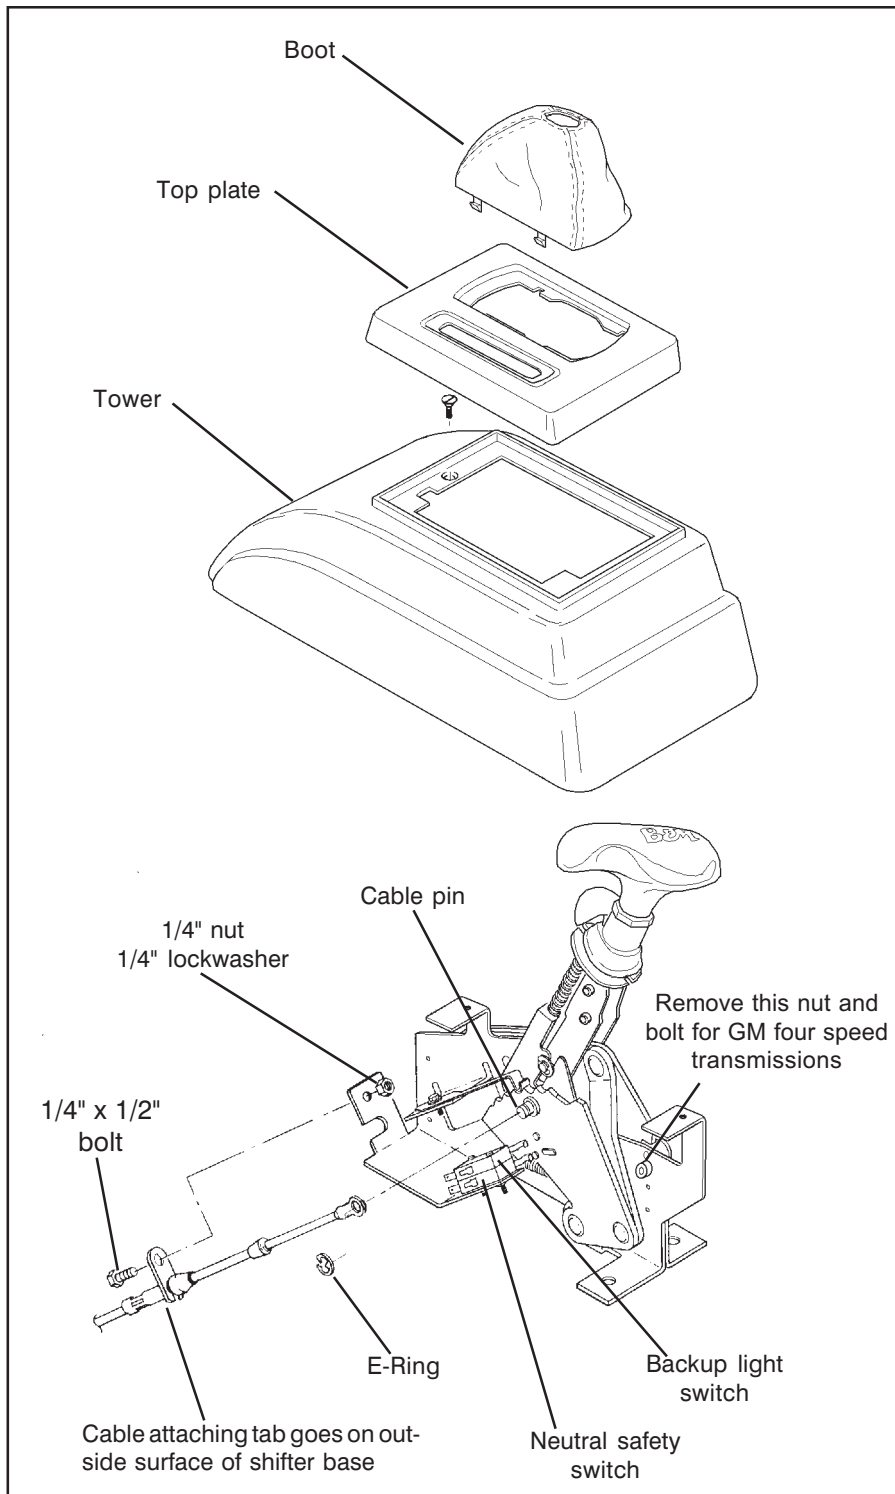

Figure 1
To use this shifter with a GM four speed automatic transmission (TH-700R4 or TH-200 4R) you will need to remove the three speed blocker bolt and nut. (See **figures 1 and 3**.) For the Ford AOD four speed transmission do **not** remove this bolt.
NOTE: If you are installing this shifter with a GM TH-700R4 or TH-200 4R four speed automatic transmission you must remove the bolt and nut indicated in **figures 1 and 3**. Removing this bolt gives the shifter four forward positions rather than three. For Ford AOD four speed transmissions do **not** remove this bolt and nut, since this transmission has only three forward positions. Also do **not** remove the bolt and nut for three speed automatic transmissions.
STEP 5. Assemble Neutral Safety and Reverse light switches to bracket using two #4-40 x 1" screws and nuts, as shown in **figure 1**. **Beware,** Over tightening the switch attachment screws will crack the switch housings. Install Switch assembly on shifter. To adjust switches loosen screws and slide switches in or out as required, then retighten screws.
STEP 6. Install cable on shifter as shown in **figure 1**. The cable attachment tab should be bolted to the outside surface of the shifter base using 1/4" x 1/2" hex bolt, lock washer and nut. Install the E-Ring that secures the cable to the cable pin.
engine will not crank unless these wires are connected together), and Reverse light wires. Disconnect Battery ground cable before beginning to wire the Neutral safety and Reverse light switches. Reroute the wires to the **B&M Hammer**. Strip 1/4" insulation off wires and install supplied slip-on terminals. Crimp terminals onto wires using a crimping tool or pliers. Connect the Neutral safety wires to the **LOWER** switch and the Reverse light wires to the **UPPER** switch, See **figure 1**. Tape terminal connections to prevent shorts. Reconnect battery ground cable, disconnect coil wire and set the parking brake. Check switch operation by attempting to start motor in each shifter position. **The starter must crank only when shifter is in the Park or Neutral position.** Check Backup light operation when the shifter is shifted to the Reverse position. Adjust switches if required. Reconnect coil wire. Go to **Step 27**.
'66-'68: The Neutral safety switch will continue to function normally. It will not be necessary to hook up the Neutral safety switch wires on the shifter. Disconnect the battery ground cable before wiring the Backup light switch. Locate the original Backup Light switch on the steering column or console shifter. Run these wires to the top switch on the **B&M Hammer**, See **figure 1**. Reconnect ground wire and check light for proper operation. Adjust switches on the shifter if required.